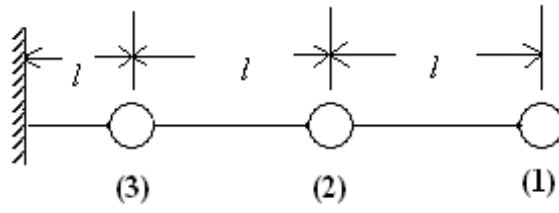

Figure 8
8. Determine the stiffness matrix for the uniform cantilever beam as shown in figure 8. [16]